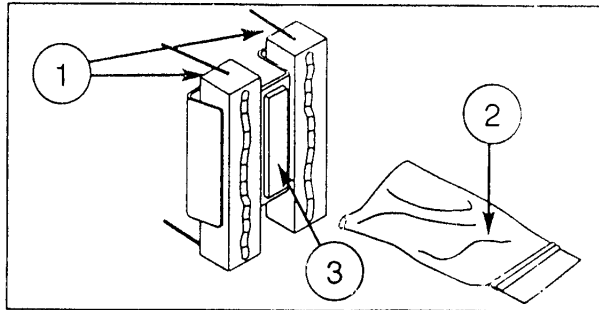

Fig. 4: (1) Resistor mount clip; (2) Thermal conductive compound; (3) Double-sided tape.
- The PCB included with this kit has two ceramic resistors attached by 7" wires. Place each resistor (1, Fig. 4) into a channel in the resistor clip mount. Adjust the position of the resistors such that only a 1/4" or so extends beyond one end of the clip.
- Carefully bend the wires coming off the resistors away from the side of the mount clip that has the black double-sided tape (3, Fig. 4).
- Clip off a small corner of the ziplock pouch and squeeze out a long bead of thermal conductive compound (2, Fig. 4) onto the face of each resistor. Be careful not to contaminate the double-sided tape (3, Fig. 4) on the resistor mount clip.